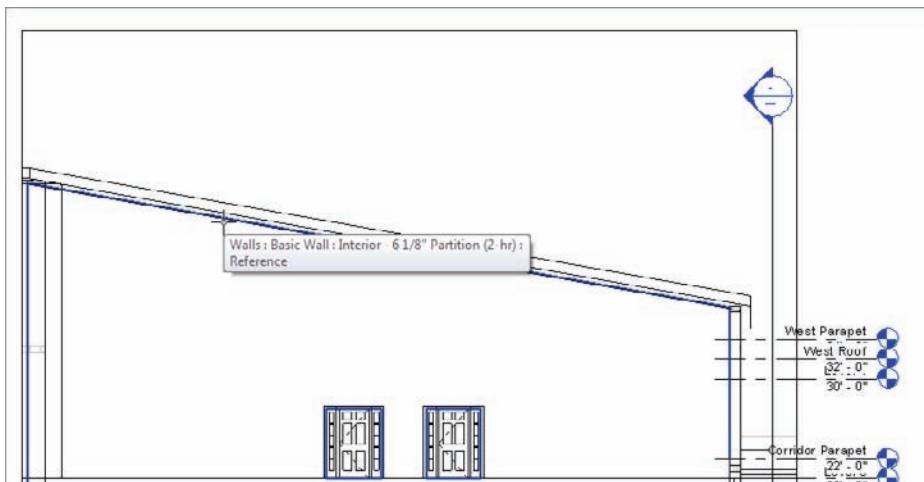

FIGURE 10.78 Picking the far wall to establish a work plane
16. Pick the far wall, as shown in Figure 10.78.